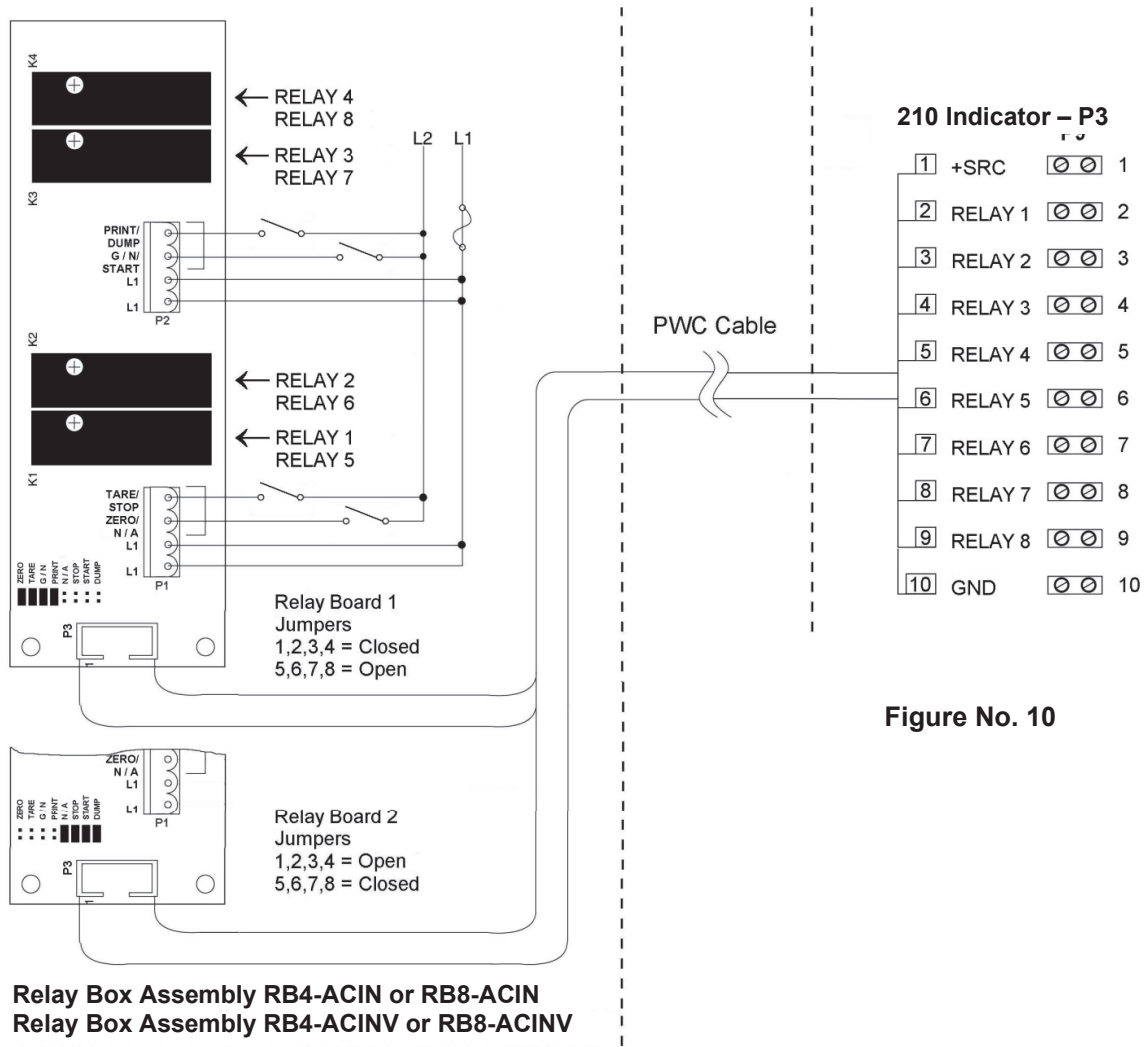
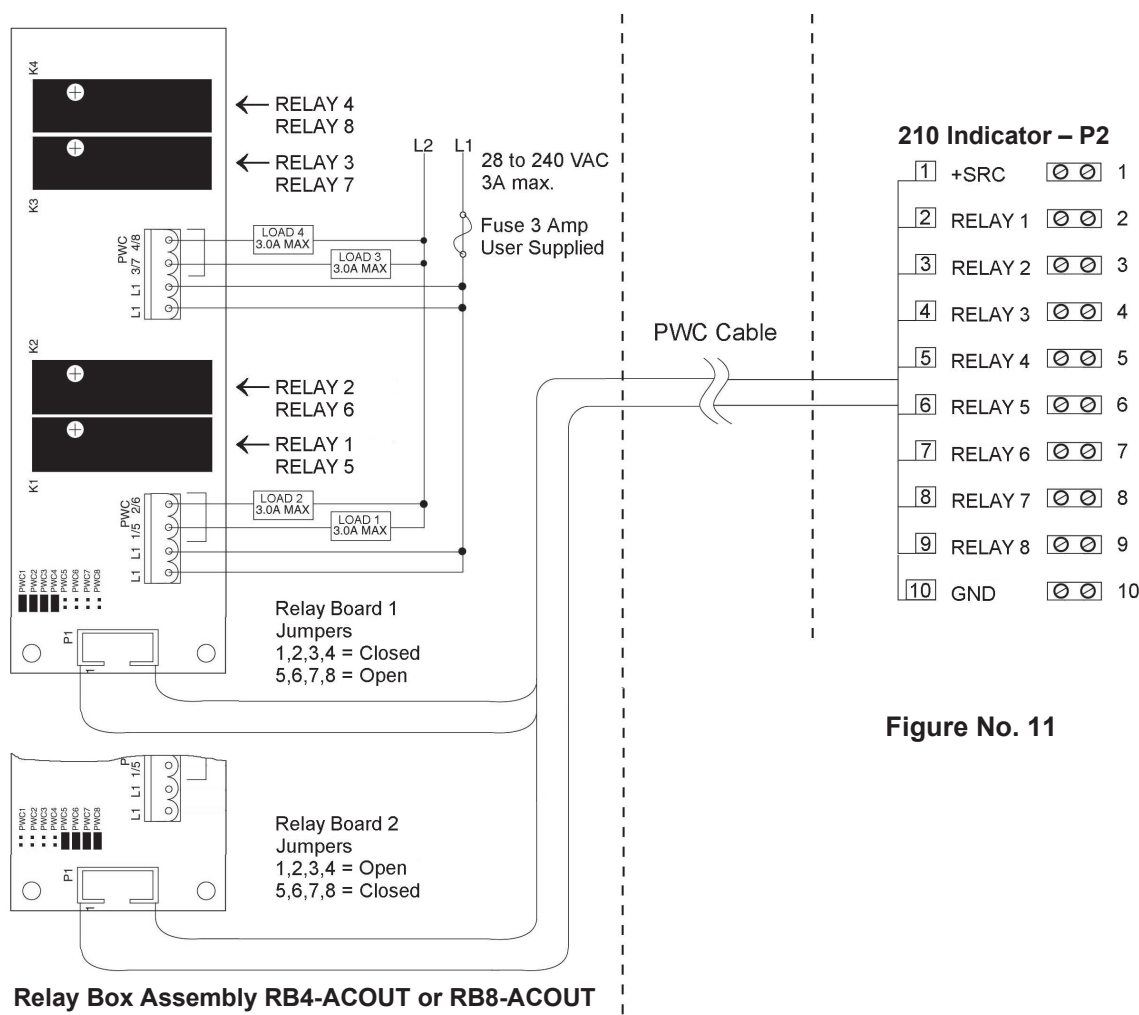
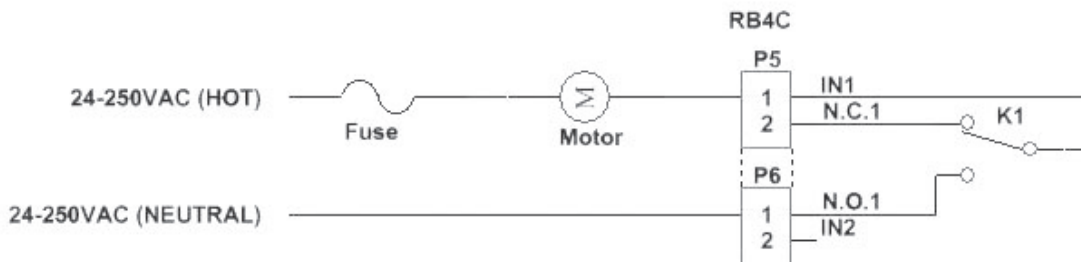
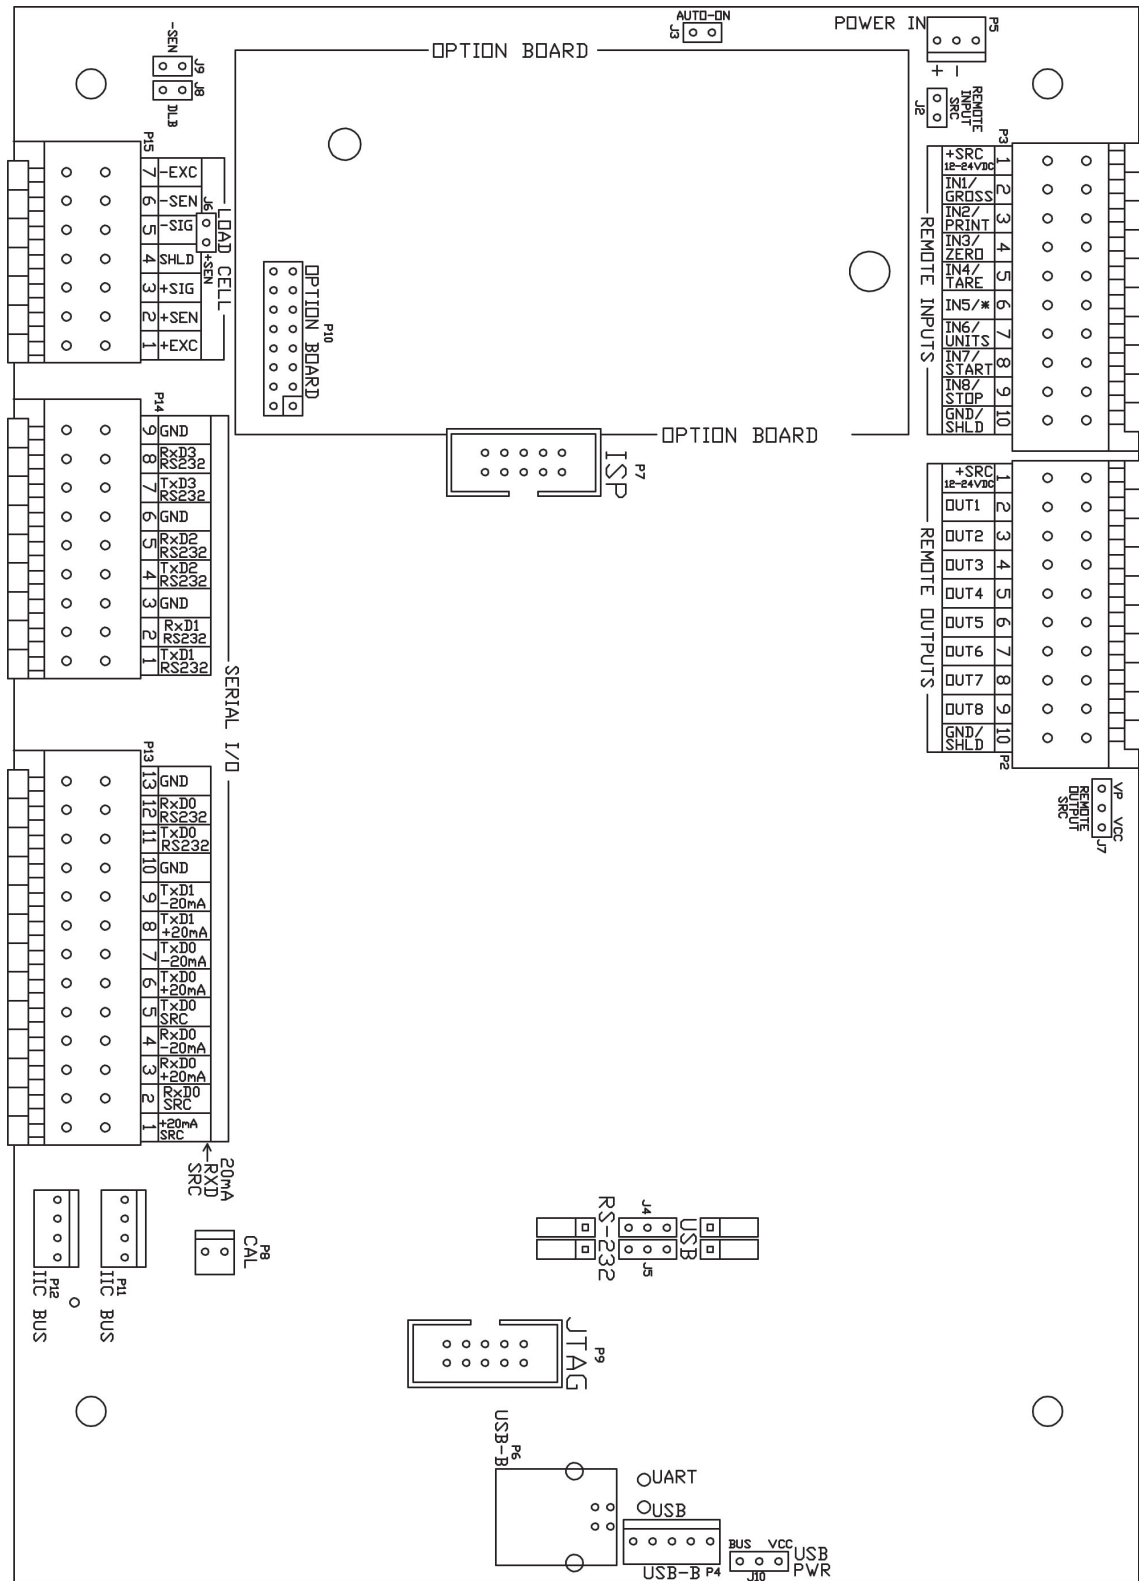

Figure No. 10
Figure No. 11
Figure No. 13
Figure No. 15
7. Plug the USB cable connector onto the USB-B, P4 header, referring to Figure No. 15 for the location of P4. Tighten the gland cable nut on the USB cable.
4. Plug the USB cable into the USB-B connector P6. See Figure No. 15 for the location of P6.
Refer to Figure No. 10 for the AC Input Relay board, Figure No. 11 for the AC Output Relay board, Figure No. 13 for the RB4C Relay board and Figure No. 15 for the Main PCB.
Included with the I/O are 4 programmable inputs that may be used to remotely (up to 100 feet) initiate various functions within the indicator. These inputs are accessed via a terminal block (P3) on the back of the PC board (see Figure No. 15). The 8 inputs are defined as follows:
The AC Input Relay Board(s) are mounted in an external junction box for use with the 210 Indicator. The RB4-ACIN (115 VAC) or RB4-ACINV (230 VAC) contain one board and supports 4 inputs (jumper selectable). The RB8-ACIN (115 VAC) or RB8-ACINV (230 VAC) contain two boards and supports eight inputs that are jumper selectable. The relay board used in the 115 VAC versions is Cardinal p/n 8200-C324-0A. The 230 VAC version uses relay board Cardinal p/n 8200-C324-1A. Connect the devices as shown in Figure No. 10.
The Remote Output SRC jumper J7, when connected, allows the 210 indicator to supply (source) VP (15VDC) or VCC (5vdc) to a solid-state relay or other load of 200 ohms or greater. The positive connection from the relays must be connected to the PWC connector pins and the negative wire from the relays to the GND pin. See Figure No. 15 for jumper and REMOTE OUTPUTS connector location.
6. Connect each of the wires to the REMOTE OUTPUTS terminal block (P10) referring to Figure No. 15 for terminal block locations.
The AC Output Relay Boards are mounted in an external junction box for use with the 210 Indicator and can be purchased from Cardinal. The RB4-ACOUT contains one board and supports four outputs (jumper selectable). The RB8-ACOUT contains two boards and supports eight outputs. The relay board used in both is (Cardinal p/n 8539-C062-0A). Connect the devices to be controlled as shown in Figure No. 11.